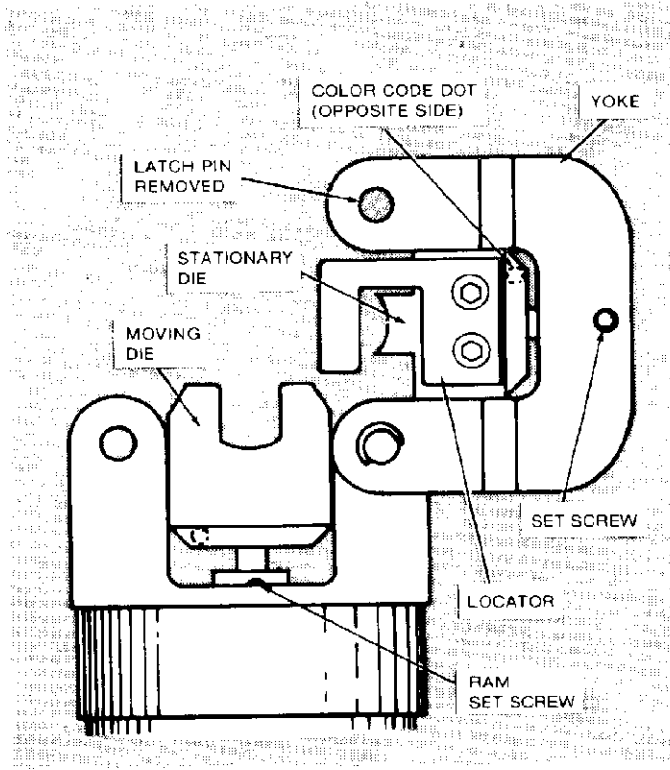

Figure 2
- Remove latch pin on head, then open yoke. See Figure 2.
- Insert stationary die into well of yoke as shown in Figure 2. Tighten set screw.
- Loosen set screw in ram and insert moving die into ram well as shown in Figure 2. Tighten set screw.